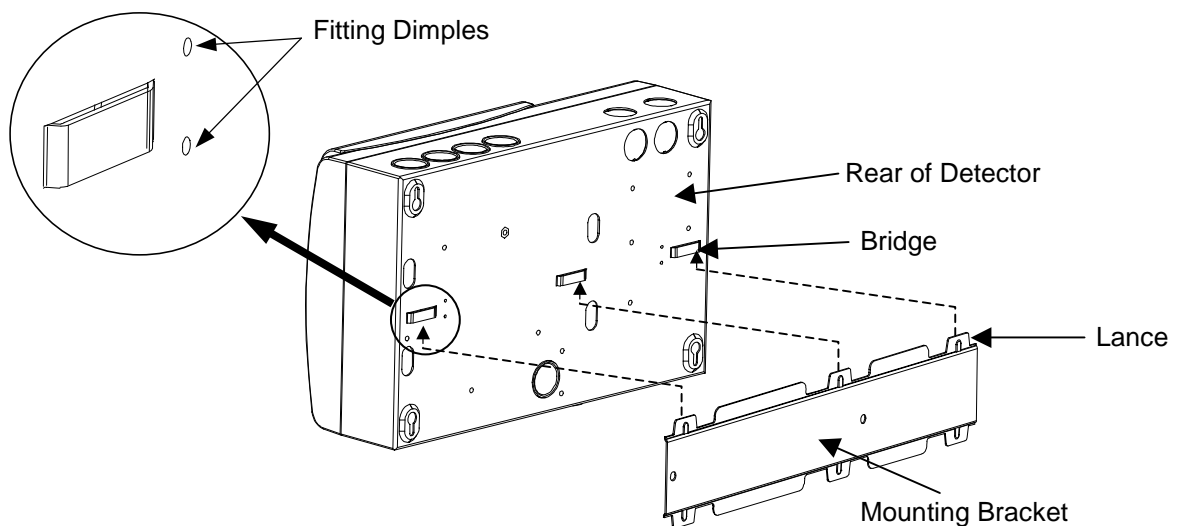

Figure 8 Mounting the Detector onto the Mounting Bracket
- Place the three bridges located on the rear of the detector onto the three lances located on the mounting bracket. Refer to Figure 8.